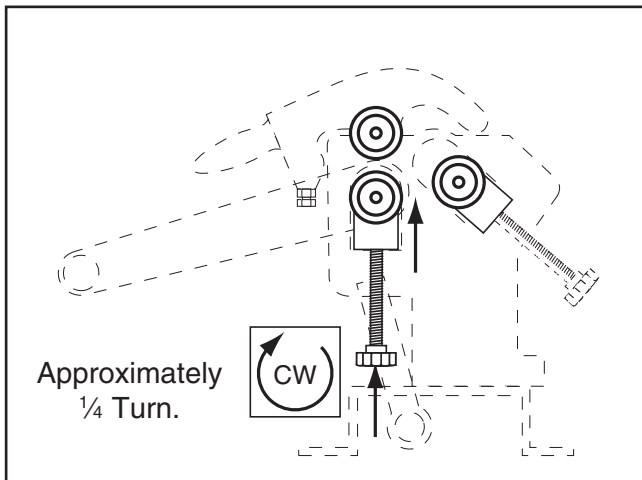

Figure 14. Raising bottom roller $\frac{1}{4}$ turn.
2. Remove the workpiece from between the rollers, then raise the bottom roller slightly by rotating each thickness adjust knob approximately $\frac{1}{4}$ turn. Also, make sure the rear roller is lowered completely and will not interfere with the workpiece as it exits the machine (**Figure 14**).